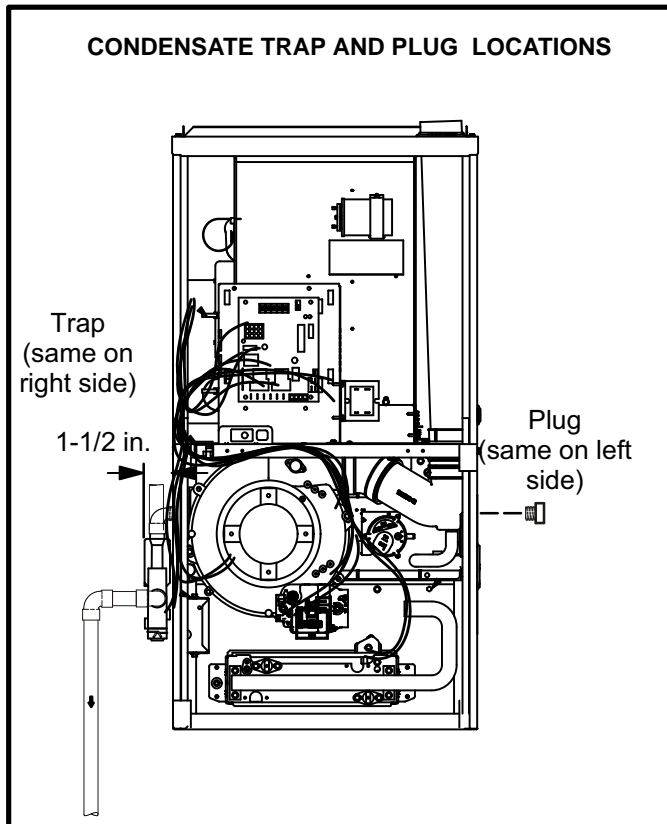

FIGURE 40
This unit is designed for either right- or left-side exit of condensate piping. Refer to figures 40 and 42 for condensate trap locations.
- 2 - For furnaces with a 1/2" drain connection use a 3/8 allen wrench and remove plug (figure 40) from the cold end header box at the appropriate location on the side of the unit. Install field-provided 1/2 NPT male fitting into cold end header box. For furnaces with a 3/4" drain connection use a large flat head screw driver or a 1/2" drive socket extension and remove plug. Install provided 3/4 NPT street elbow fitting into cold end header box. Use Teflon tape or appropriate pipe dope.